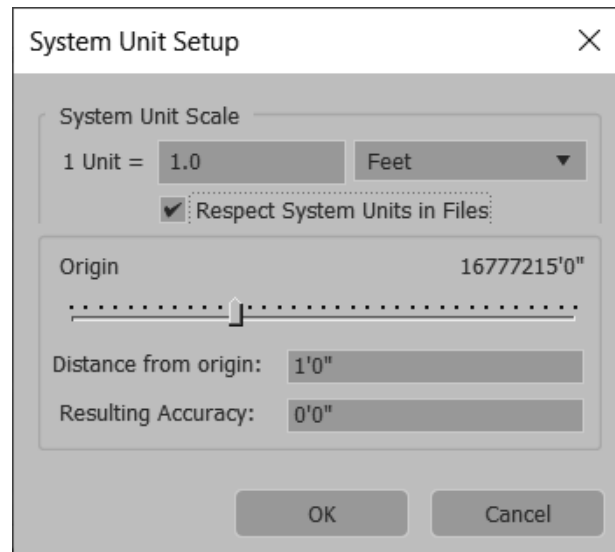

Figure 3–38
3. Select **System Unit Setup**. In the System Unit Setup dialog box, in the System Unit Scale area, set *1 Unit =* to **Feet** and select the **Respect System Units in Files** check box, if required (as shown in Figure 3–38). Click **OK** twice.